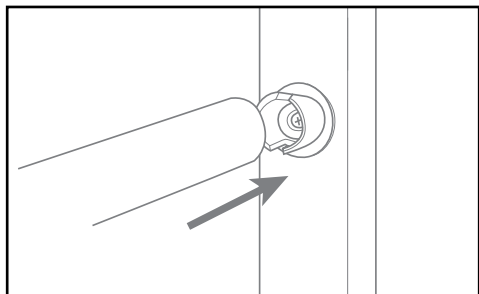

Fig. 8
- Apply aluminum adhesive and insert the straight return into the Hand Rail lineal - Fig. 8.